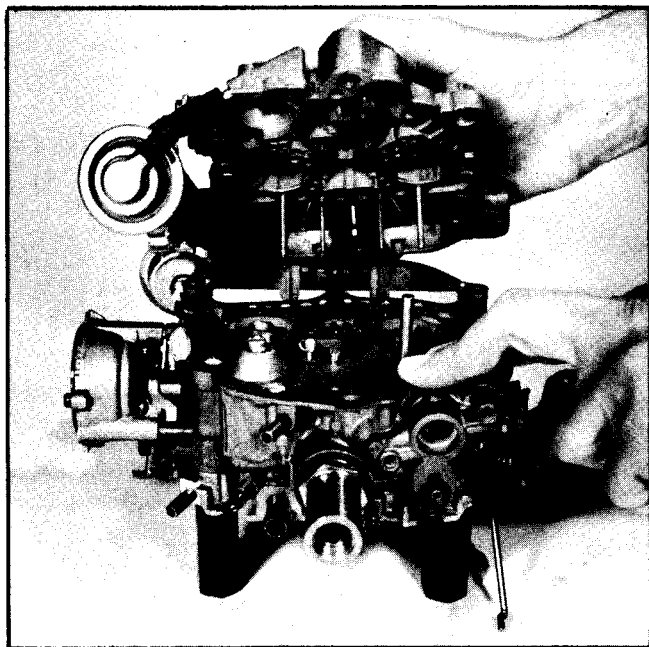

Figure 69 Installing Air Horn
**NOTICE:** Air horn gaskets for "modified" Quadrajets differ in that some have an extra hole forward of the main metering rod hanger, either for the auxiliary hanger (dual power piston models) or for the APT adjustment screw (Fig. 69). Be sure to use the correct gasket for the carburetor being worked on.
27. 4MV-4MC models — install accelerator pump plunger in pump well. M4MC-M4ME models — if used, install bowl vent valve spacer on accelerator pump plunger stem. Carefully lift corner of the air horn gasket and install accelerator pump plunger in the pump well by pushing the plunger to the bottom of the well against return spring force. While holding in this position, align pump plunger stem with hole in gasket and press gasket into place (Figure 69).
Carefully lower air horn assembly onto float bowl (holding down on air horn gasket at pump plunger location), making sure that the bleed tubes, pull-over enrichment tubes (if used), and pump plunger stem are positioned properly through the holes in the air horn gasket (Figure 69).